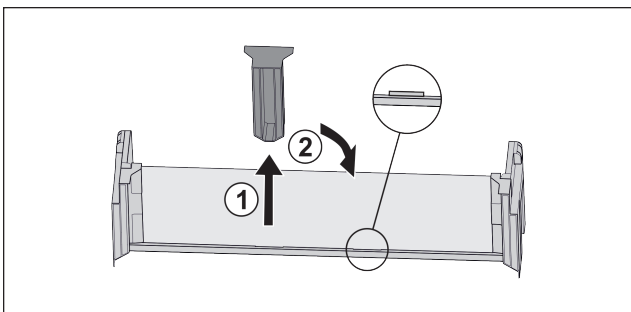

Fig. 20
- ▶ Pull off the middle holder Fig. 20 (1).
- ▶ Insert the middle holder in the second position Fig. 20 (2).